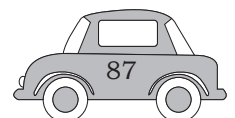

Fig. 3.36: Disc Brake
- 4. Disc Brake or External Contracting Brakes:** It is the type of braking system in which instead of a drum assembly a disc rotor is attached to the hub of the wheel in such a fashion that it rotates with the wheel (see Fig. 3.36). This disc rotor is clamped in between the caliper which is rigidly fixed with the knuckle or upright of the vehicle. When brakes are applied the actuation mechanism contracts the attached brake shoes which in turn make the frictional contact with the rotating disc rotor and cause the stopping of a vehicle. An external contracting brake is used for only parking purpose as well as used to operate in flour mills, various types of electrical components, etc.